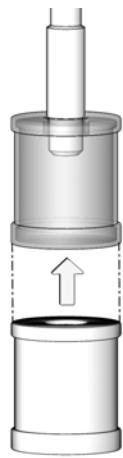

FIG. 3
- b. For all installations (whether the tube needs to be trimmed or can be used without trimming), press strainer onto end of the suction tube until it "bottoms" (FIG. 3).